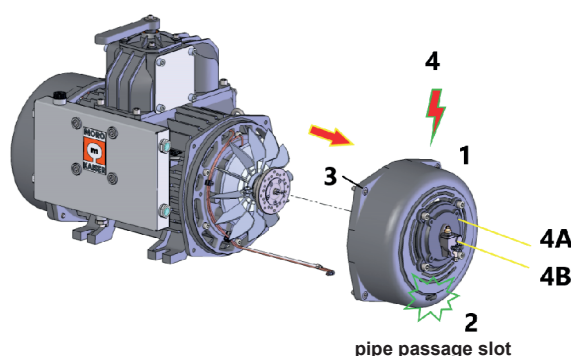

Fig. H.11 - Phase 0070
- Remove 4 M12x25 screws (**pos.3 Fig. H.11**) (Allen key 10).
- Remove the rear fan cover (**pos.1 Fig. H.11**) without removing any screwed parts (**pos.4A - 4B Fig. H.11**).
- Pay attention to the slightly difficult passage of the pipes through the slot (**pos.2 Fig. H.11**).